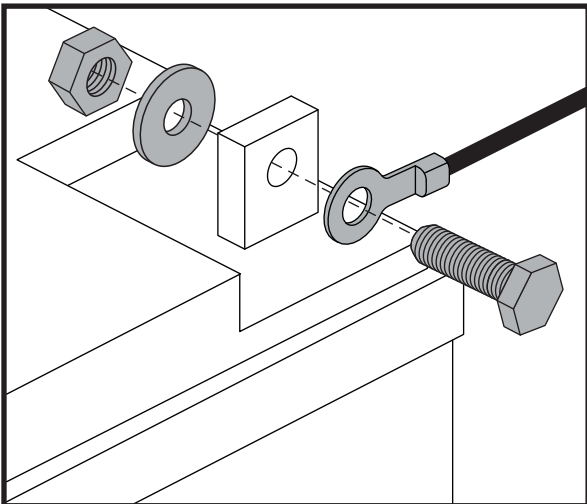

Figure 9. Battery Terminal Hardware
4. Disconnect the battery cables from the battery terminals by unscrewing the nut from the bolt. **See figure 9.**